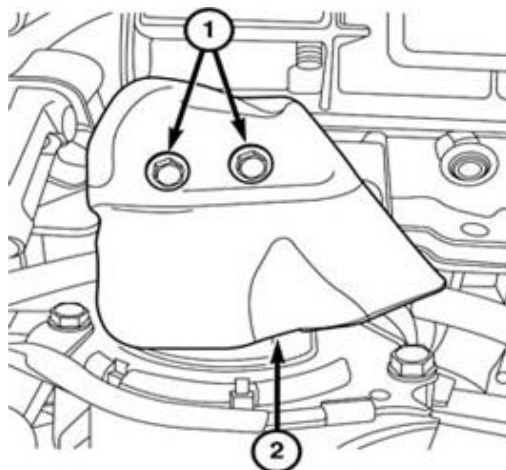

Figure 36 – Left Engine Mount Heat Shield
- 76. Remove bolts (1) and the heat shield (2) from the left engine mount (Figure 36).